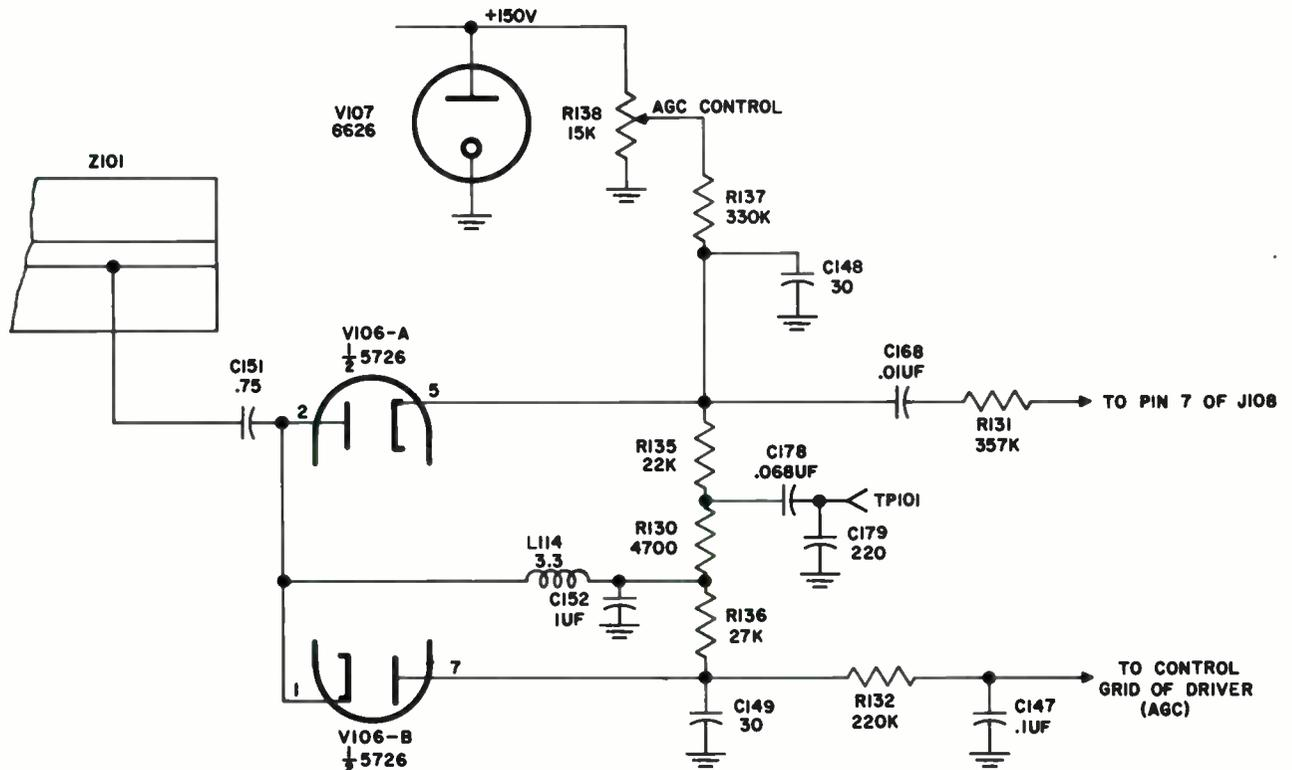

Figure 4-6. AGC Detector Unit
4.3.1.7 AGC DETECTOR UNIT. (Refer to figure 4-6.) The agc detector unit samples the r-f output of the